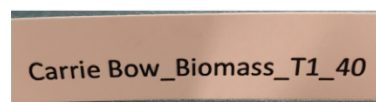

Figure 1: Example label with site (Carrie Bow), method (biomass), transect (1), and replicate (40 m).
2. Place an internal label written on waterproof paper with the site, method, transect, and replicate number inside each of 9 plastic bags (Fig. 1).